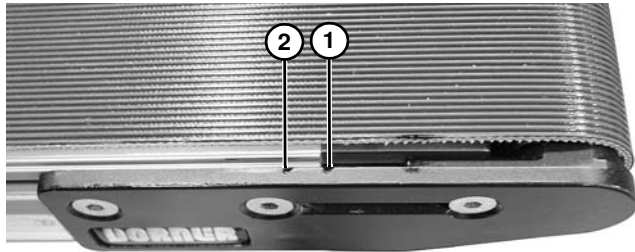

Figure 60
- Adjust head plate assembly so end of conveyor frame aligns with or between the head plate tensioning marks (**Figure 60, item 1 & 2**). Replace belt if proper tensioning can not be obtained while aligning the end of the conveyor frame with or between the tensioning marks.